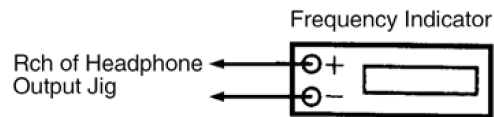

Fig. 10
3. Adjust the motor screw so that the following output level is produced. (Fig. 10)